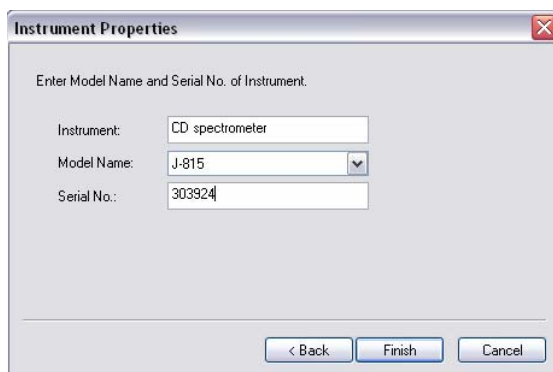

Figure. 2.21 Registration of serial No., model name and instrument name
- (2) Check the box as shown in Fig. 2.21 and click the <Next> button.
These the above information is registered for the example depicted in Fig. 2.21.